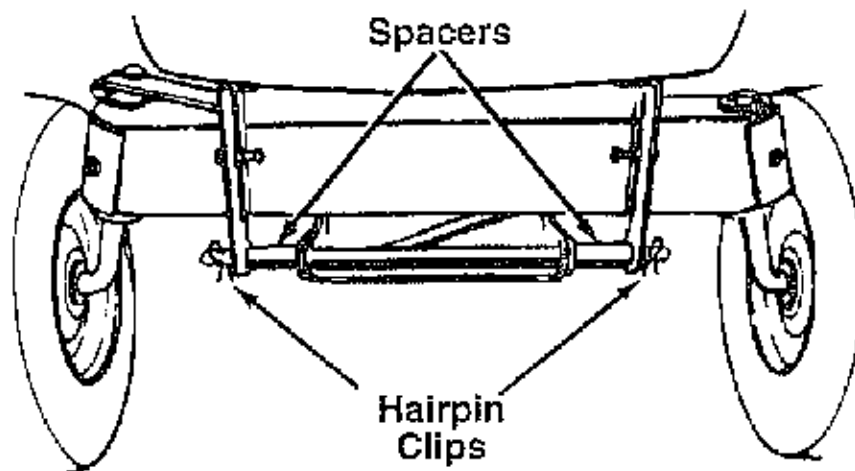

FIGURE 7.
7. Disassemble the front cross bar from the tractor by removing two hairpin clips. Use the cross bar to attach the deck stabilizers, the diagonal brace and two spacers to the tractor frame, using the rear set of holes. Secure with the two hairpin clips just removed. See figure 7.